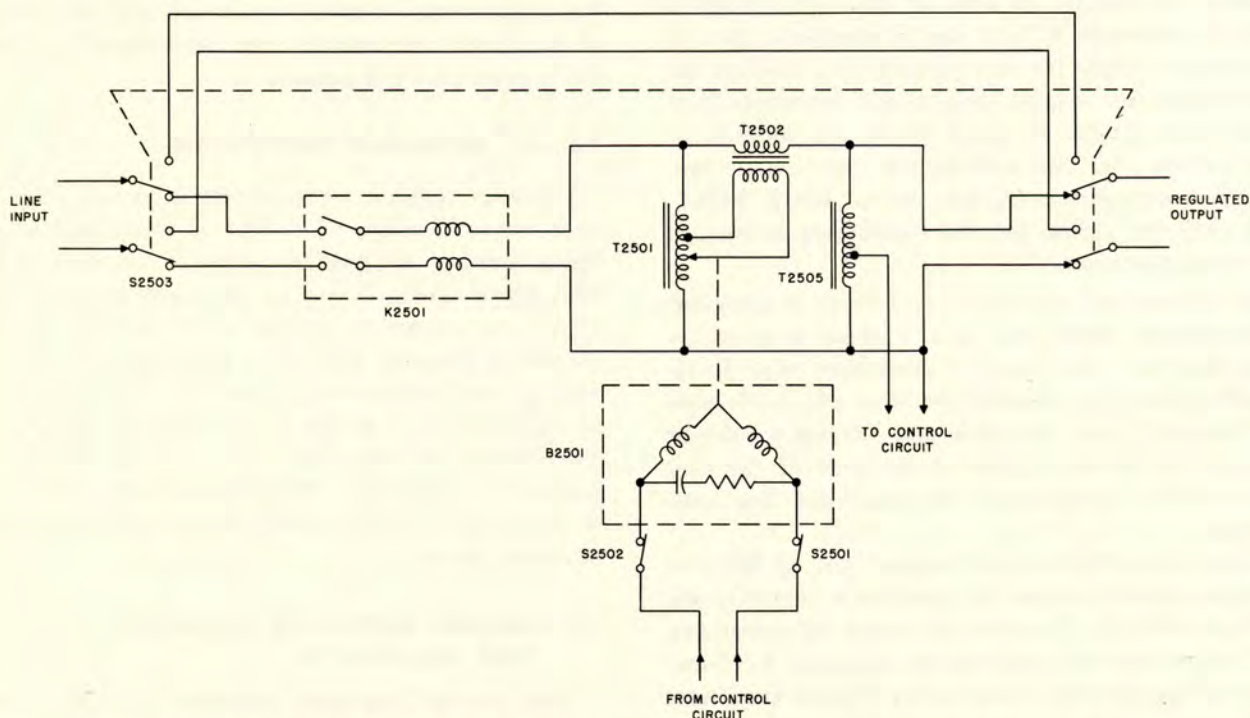

Figure 2-14. Voltage Regulator Power Circuit, Simplified Schematic Diagram
b. POWER CIRCUIT. — As shown in figure 2-14 the power circuit consists of a motor-driven variable autotransformer, T2501; a buck-boost transformer, T2502; a two-phase motor, B2501; and a step-down transformer, T2505. With the main disconnect switch, S2503, placed in the **REGULATED VOLTAGE** position, the input line voltage is fed through the circuit breaker onto the autotransformer, T2501. By means of one fixed and one variable tap on T2501 a certain portion of the input voltage is tapped from T2501 and developed across the secondary of the buck-boost transformer T2502. Depending upon the position of the variable tap relative to the fixed tap, the voltage induced in the secondary of T2502 is either in phase or 180° out of phase with the input voltage and hence is added or subtracted from the input voltage to form the regulated output voltage.